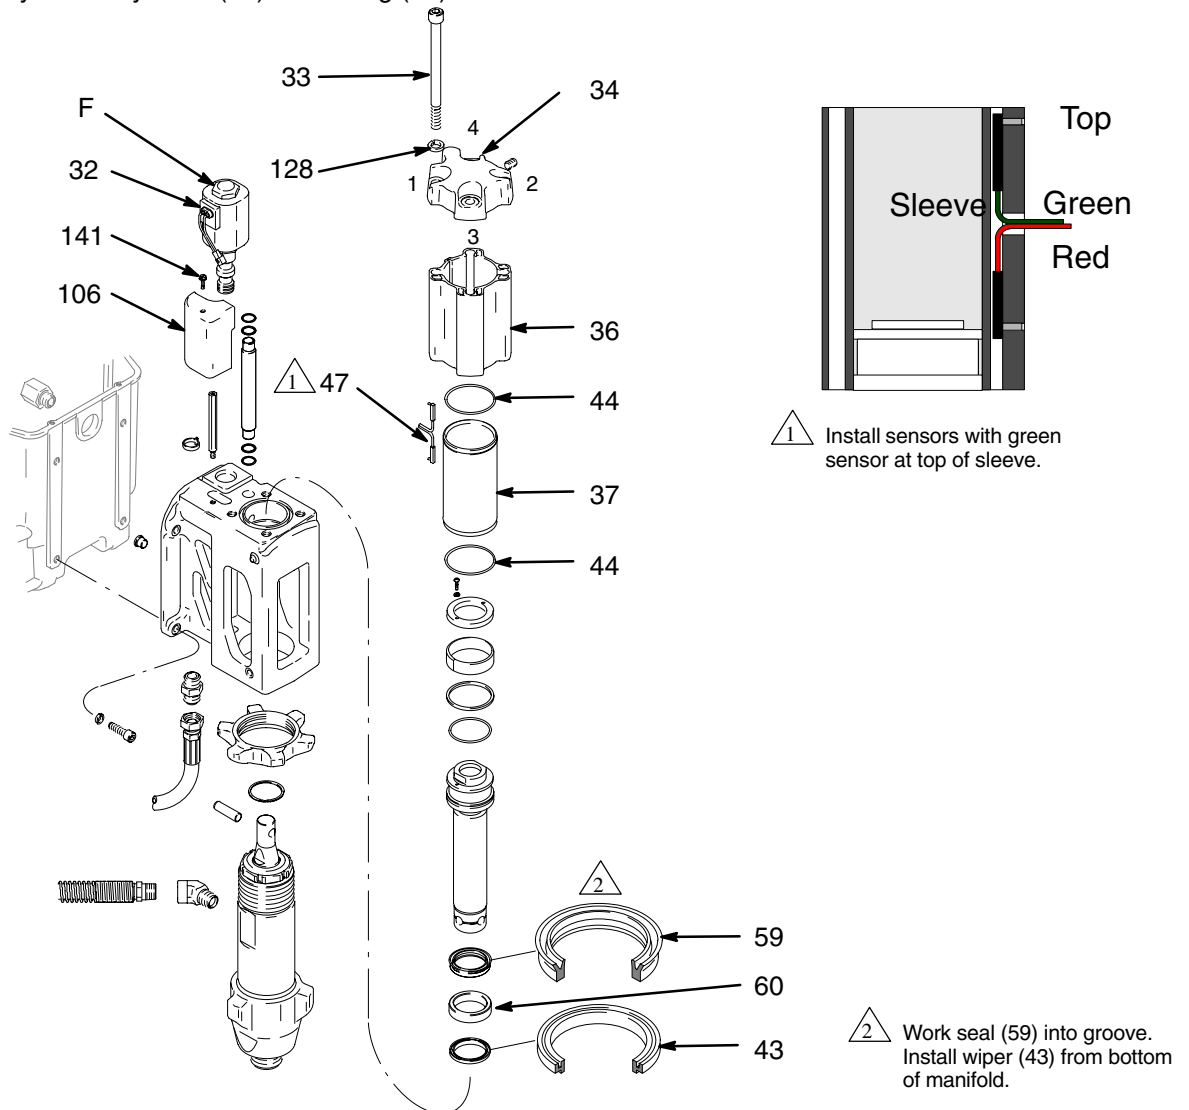

Fig. 7
2. Fig. 7. Remove four cap screws (33), washers (128) and cylinder cap (34).
3. Remove o-ring (44) from cylinder sleeve (36).
4. Remove screw (141) and cover (106).
5. Disconnect magnetic sensor (47).
6. Remove cylinder sleeve (36).
7. Remove hydraulic cylinder (37) and o-ring (44).
2. Fig. 7. Remove large hex nut (F) on top of valve (32).